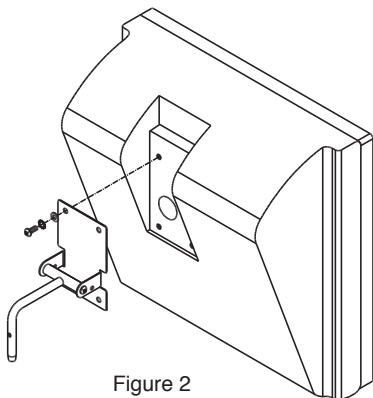

Figure 2
Step 2: Remove the four screws from the back of the speaker. Attach the speaker mount assembly to the speaker in the indicated orientation and reinsert three of the screws with the included star washers (leave one screw out from the top side of the wall mounting plate). Tighten screws permanently (Figure 2).
Step 2. Remove the four screws from the back of the speaker. Attach the speaker mount assembly to the speaker in the indicated orientation and reinsert three of the screws with the included star washers (leave one screw out from the top side of the wall mounting bracket). Tighten screws permanently (Figure 2)